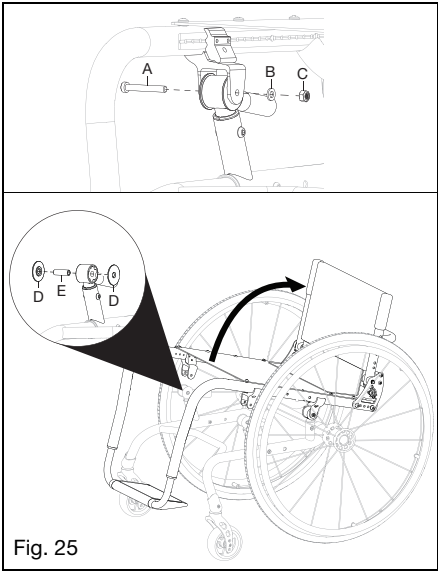

Fig. 25
- 1. Remove the bolt (Fig. 25:A), washer (Fig. 25:B) and nut (Fig. 25:C) from the front ISO tech tower using a 4mm Allen wrench and a 10mm wrench. Repeat on opposite front ISO tech tower. Once the bolt is removed from both front ISO tech towers the seat can hinge backwards on the rear ISO tech towers. The seat frame can now be lifted upwards enough to make room for removal of the ISO strut washers (Fig. 25:D) and the ISO barrel (Fig. 25:E).